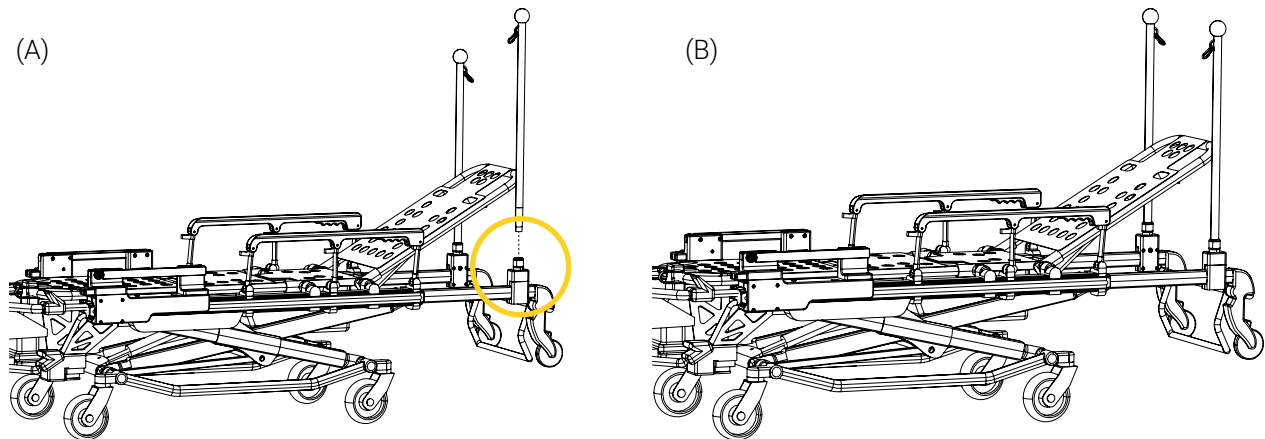

Figure 39: Installing the push bars at patient head end
6. Rotate the clamp block collar counterclockwise about a quarter of a turn to loosen, then insert the tapered end of a push bar into the clamp block socket (Figure 39 A).
7. Rotate the clamp block collar clockwise to tighten, ensuring the push bar is secured (Figure 39 B).